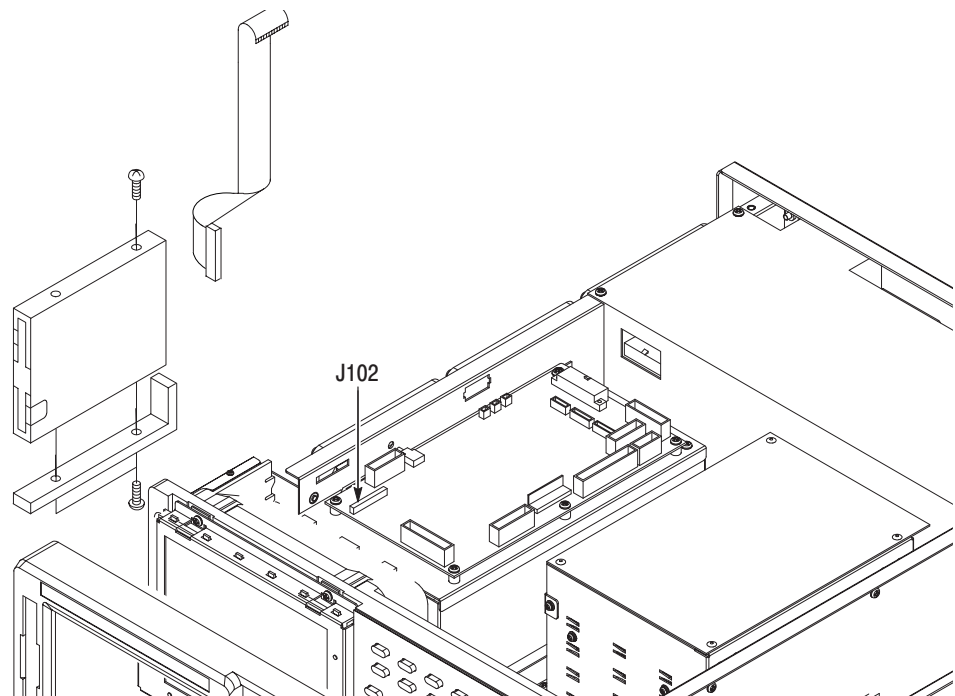

Figure 6-15: Floppy disk drive removal
4. Use the screwdriver with a #1 Phillips tip to remove the two screws securing the floppy disk drive with bracket to the main chassis, and lift it away from the chassis (use Figure 6-15 as a guide). When removing the disk drive main body from the bracket, remove the one screw securing the drive to the bracket, and then pull out the disk drive.